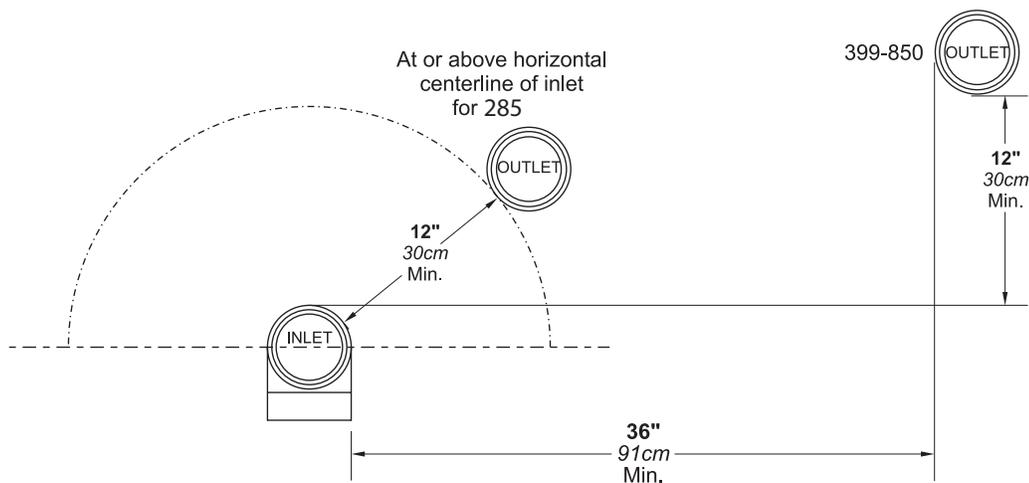

Figure 18. Minimum Venting Distance
5. Multiple vent kits should be installed such that the horizontal distance between the outlet group and the inlet group is 36" (90cm). (Figure 18.)